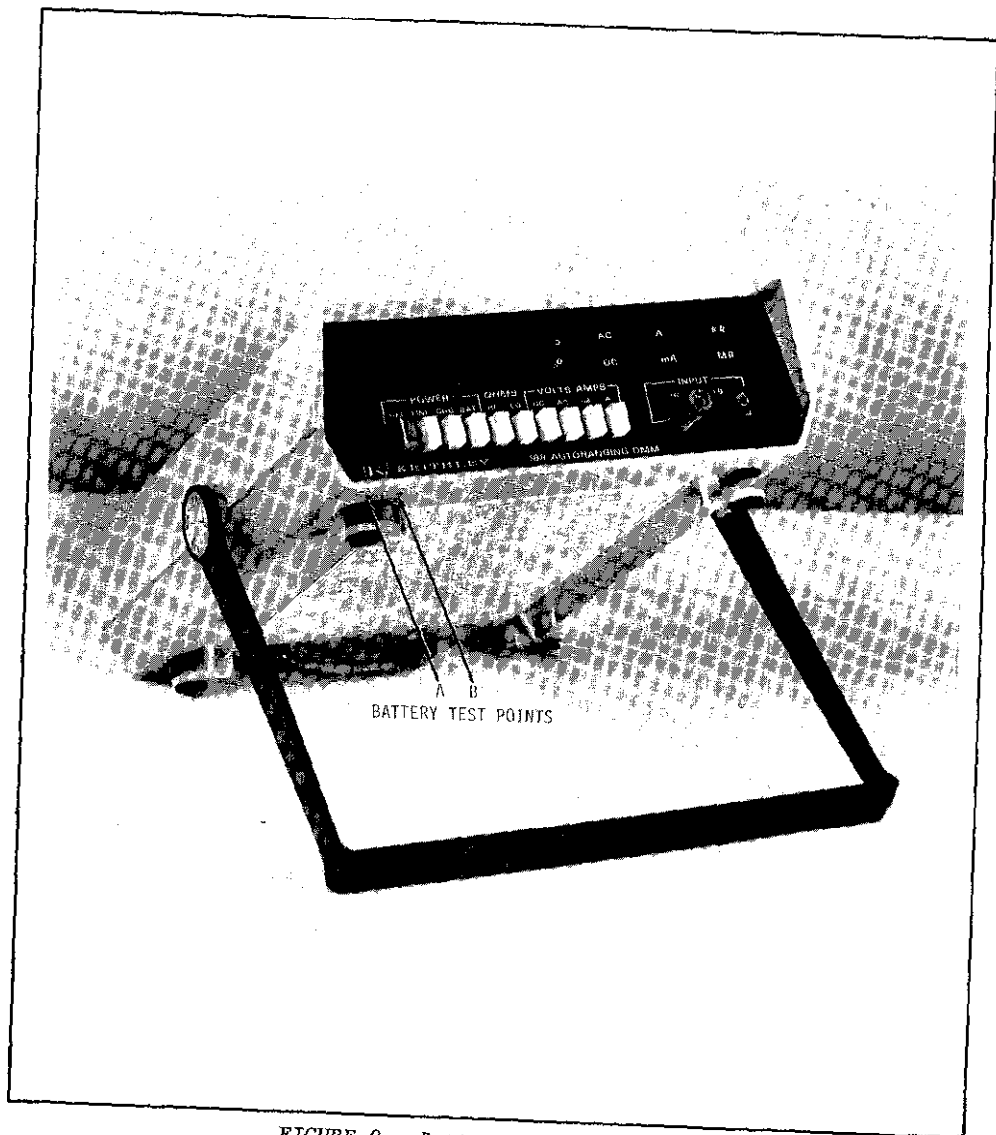

FIGURE 9. Battery Test Location.
2. How to Check Batteries. (Valid only in BAT mode). The Model 168 provides two test points (A and B) located on the bottom of the instrument as shown in Figure 9. These test points permit a convenient check of the condition of the internal Battery Pack without need to remove the Model 168 cover. The voltage at test points A or B may be measured using the Model 168 or any other comparable voltage measuring instrument. To check the voltages at test points A or B, select the BAT mode, connect the HI terminal of the Model 168 (for a self check) or other voltmeter to test points A or B and observe the measured voltage. (If a separate voltmeter is used, it is necessary to make a connection to the LO terminal of the Model 168 since both points A and B are to be referenced to circuit low.) Table 2-2 gives the battery voltages required at each test point.